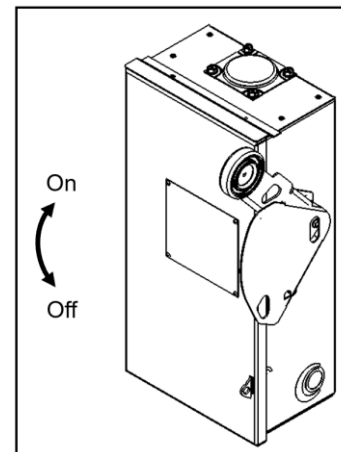

Figure 12-3. Fused Electrical Disconnect.
2. Apply electrical power to the pump station by setting the Fused Electrical Disconnect on the pump station to ON. The handle must be in the up position. See Figure 12-3.
- After approximately 15 seconds, turn the power to the pump station ON, by setting the handle on the Fused Electrical Disconnect in the up position. See Figure 12-3.